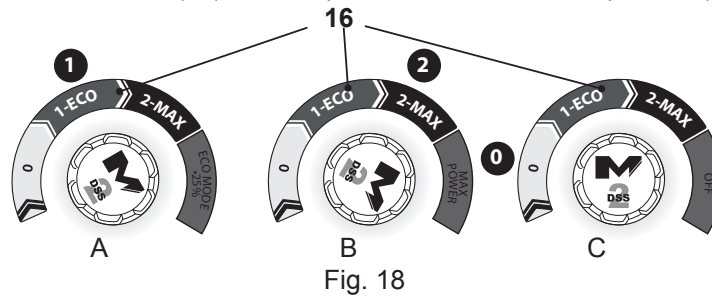

Fig. 18
1. Set the on/off switch (16) in its “1” position to start the product and work under **ECO MODE** (low speed) (Fig. 18, A). ECO MODE can save up to 25% energy consumption.
2. Set the on/off switch (16) in its “2” position to start the product and work under **MAX POWER** (high speed) (Fig. 18, B).
3. Set the on/off switch (16) in its “0” position to switch off the product (Fig. 18, C).